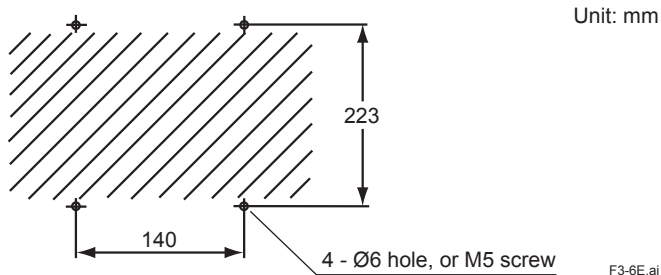

Figure 3.8 Mounting holes
- (1) Make a hole in the wall as illustrated in Figure 3.8.